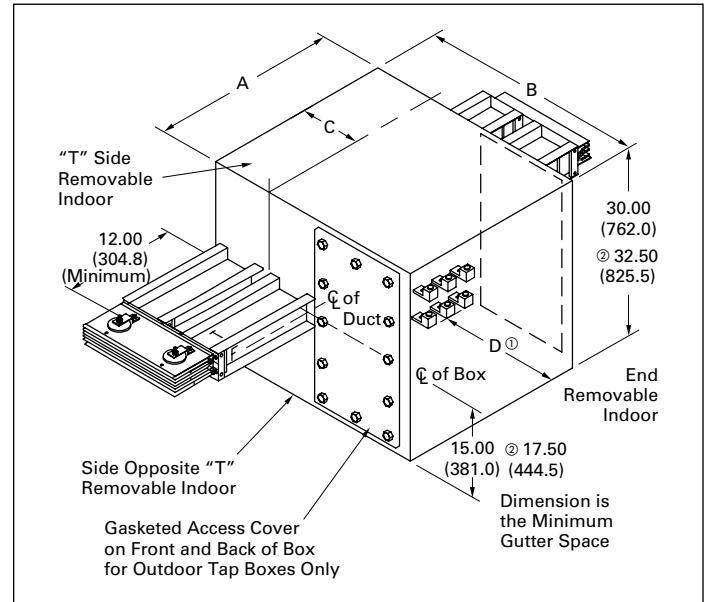

Figure 24.1-25. Center Cable Tap Box
See Figure 24.1-25
- ③ For compression lugs, factory provides provisions only.
④ All dimensions shown in Figure 24.1-25 remain constant regardless of system wiring configuration.
⑤ Denotes quantity of terminals per ground bus.
⑥ Denotes quantity of terminals per phase and 100% neutral bus.
⑦ Denotes quantity of terminals per 200% neutral bus option.